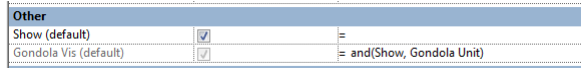

Figure 27—Control visibility in the nested family
3. Open Family Types and add a formula for the Gondola Vis parameter: **and(Show, Gondola Unit)** (see Figure 27).